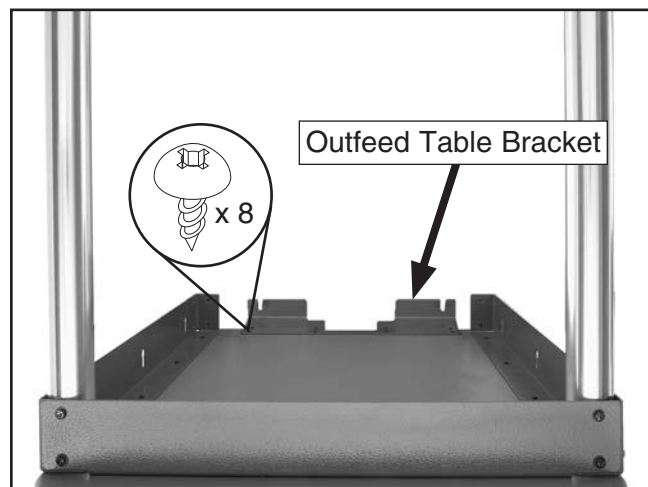

Figure 12. Front outfeed table bracket, feet, support legs, and shelf end plate attached to outfeed table.
15. Attach front outfeed table bracket to outfeed table with (8) M4 x 16 tap screws, and then repeat **Steps 8–11** to install outfeed table feet, support legs, and shelf end plate on outfeed table (see **Figure 12**).